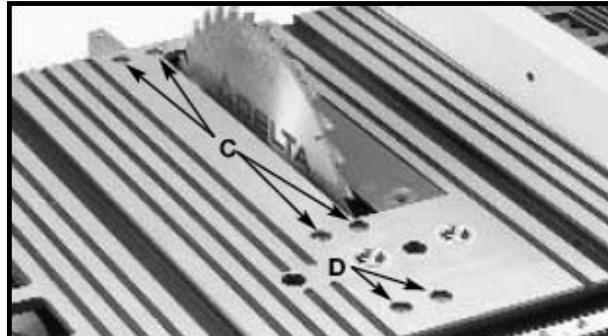

Fig. 40
5. If the front and back measurements (Figs. 38 and 39) are not identical, you can adjust the blade. Start by loosening the nuts below the four screws (C) Fig. 40 on the table. Then loosen the screws (C). Carefully move the saw blade until the blade is parallel to the miter gauge slot. When done, tighten four nuts under the table and the four screws (C) Fig. 40 securely.
NOTE: If sufficient adjustment cannot be achieved by loosening the screws (C) Fig. 40, loosen the screw (D) Fig. 40 necessary to make the adjustment.